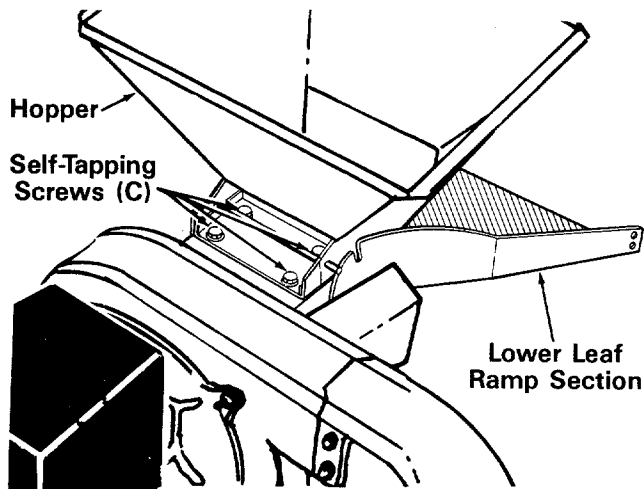

FIGURE 3.
2. Place the hopper in position on the shredder. See figure 3. Start four hex washer head self-tapping screws (C) by hand, then tighten securely using a 1/2" socket wrench.